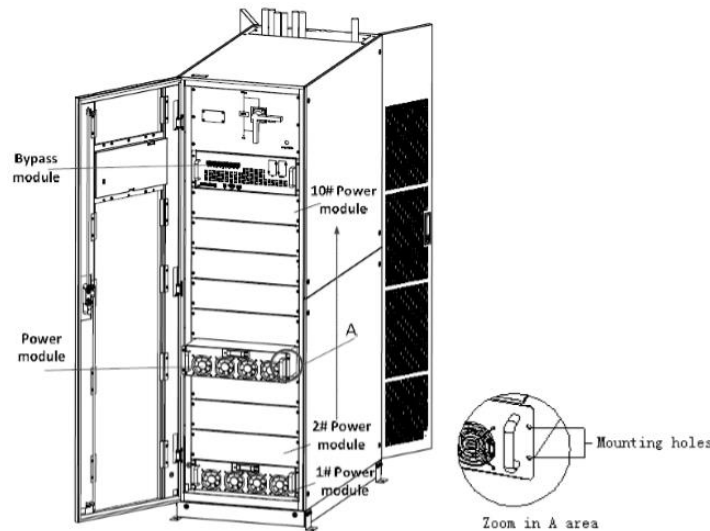

Figure 2-12 Installing power modules
- 4) Fix the module to the cabinet through the mounting holes on two sides of the front plate of the module, as is shown in Figure 2-12.